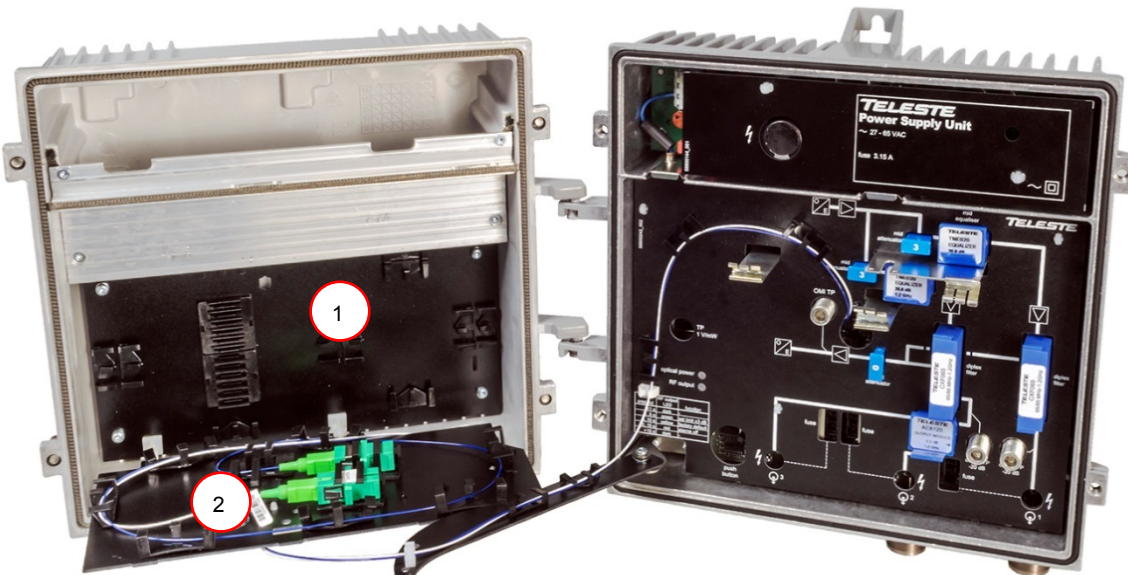

Figure 6. Routing fibres – typical configuration
The node contains an internal fibre organiser. The fibre organiser provides termination, splicing and storage functions for fibre cables. The cover of the node provides a protective enclosure for optical fibres and components. The fibre organiser consists of two functional parts: splice tray (Figure 6 pos. 1) and termination tray (Figure 6 pos. 2). The termination tray is hinged to the chassis of the fibre organiser and swings outwards to provide access for connecting installation fibre filaments (external fibre optic cables) and fibre pigtails (Access units).